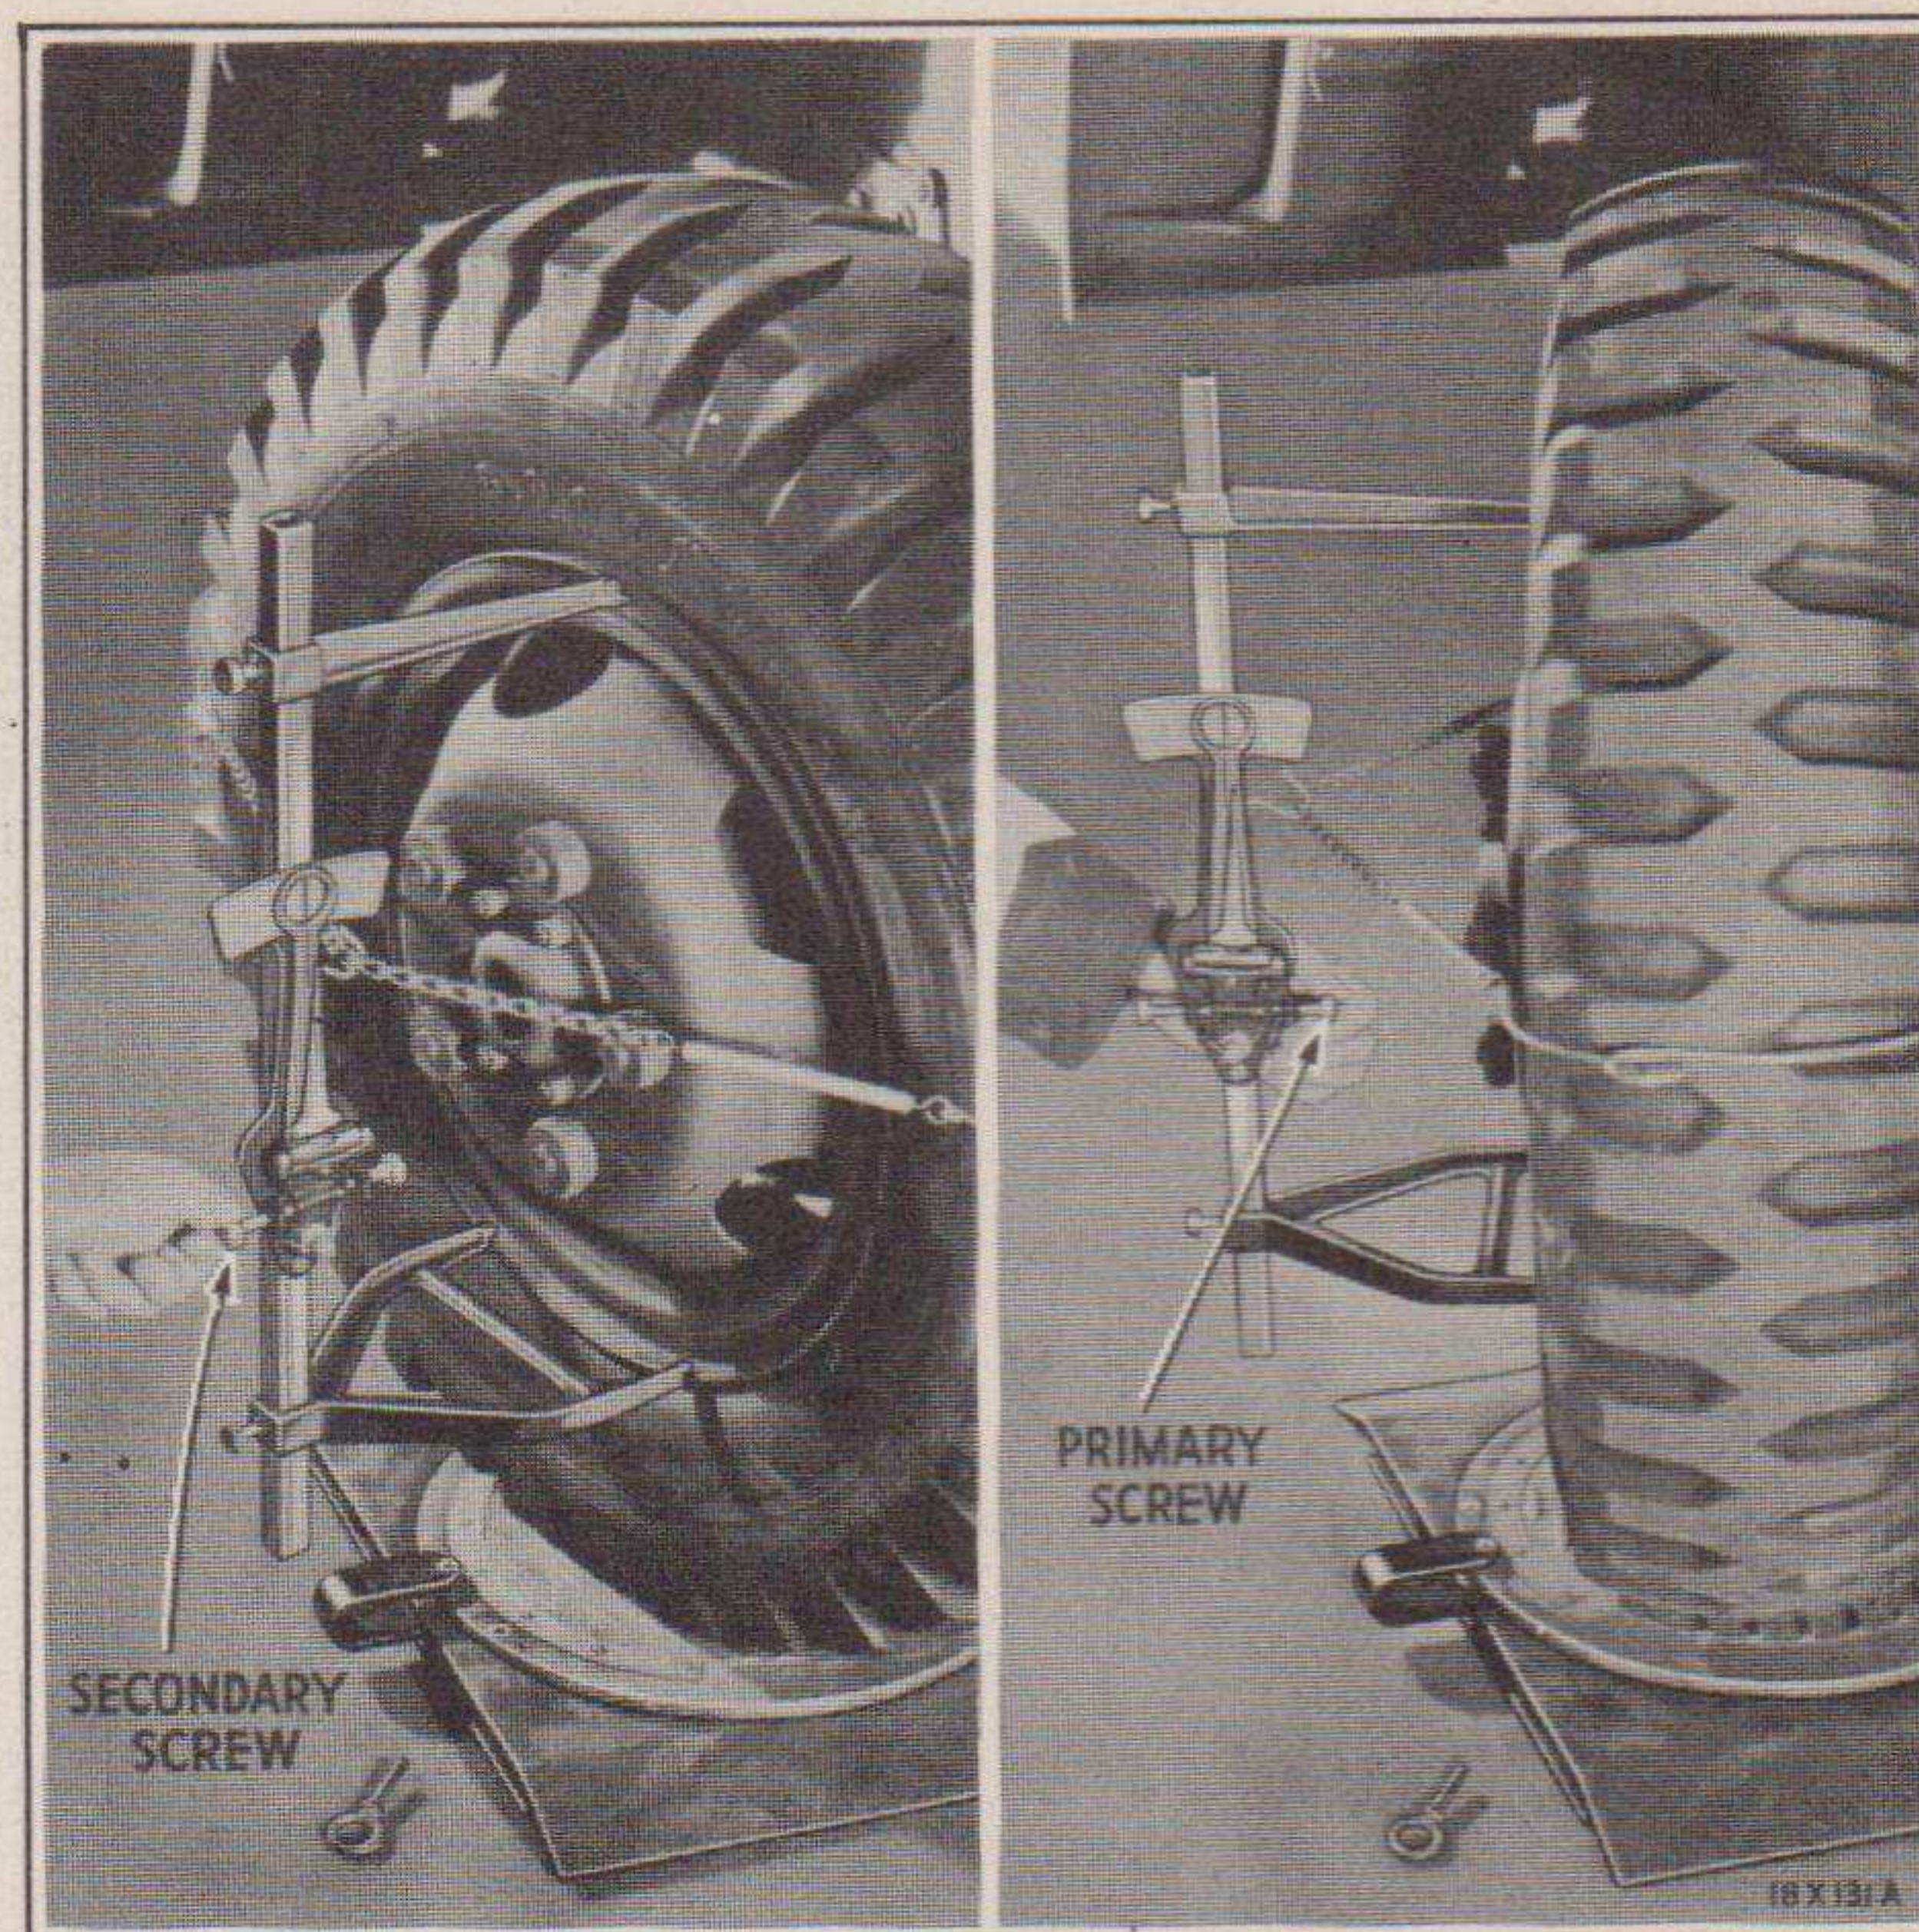

Fig. 43—Checking Caster—Gauge on Right Wheel (Gauge Tool DD-428)
- (a) Assemble the gauge on the wheel as shown in Fig. 43.
- (d) Adjust the secondary screw which controls the short pointer (Fig. 43) until the bubble is centered between the two lines on the spirit level. *Do not disturb this gauge setting.*
- (f) Adjust the primary screw (Fig. 43), which controls the hair line, until the bubble centers in the spirit level. The reading on the 40 degree scale on the gauge will be the caster angle.